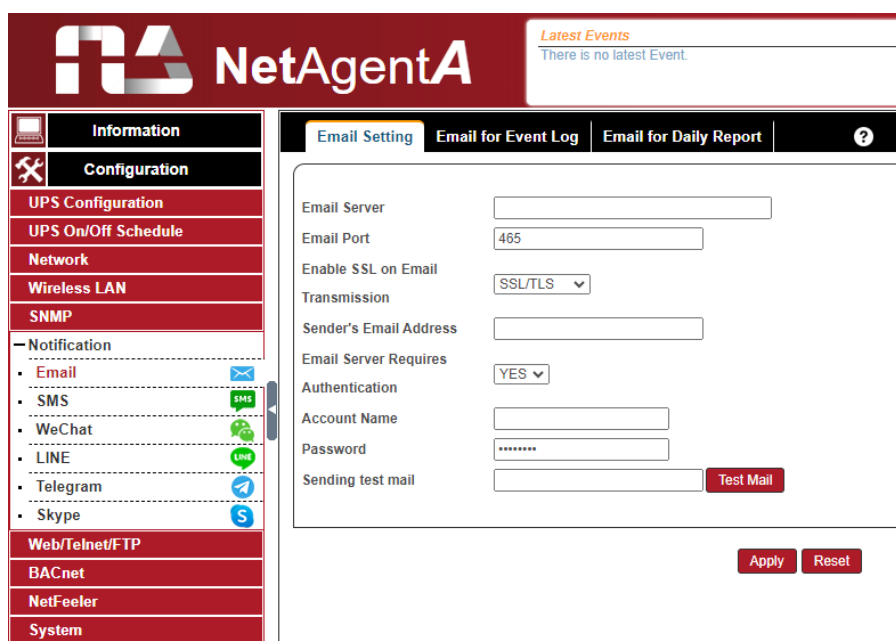

Fig. 5-9 Configuration menu
- In the "Configuration" menu you can find the main settings of the card (Fig. 5-9).